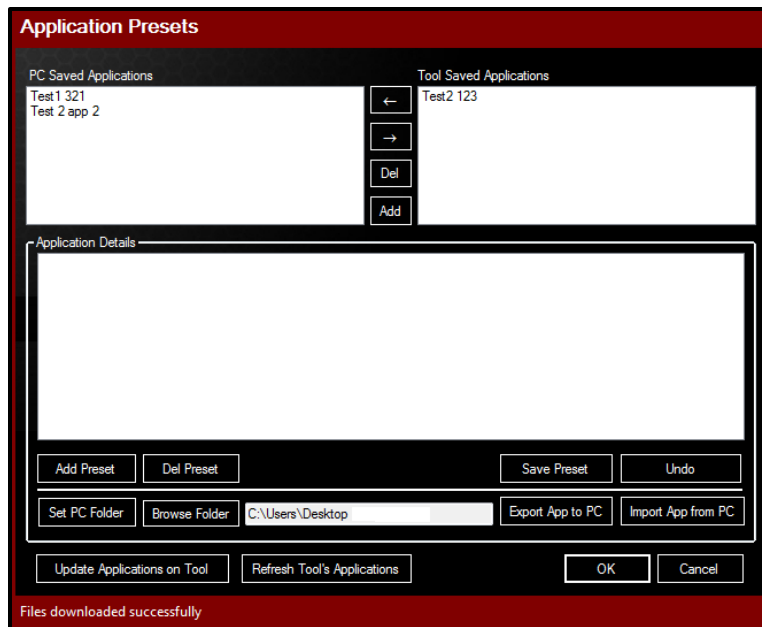

Figure 8.7-2: Application Presets Window
4. The Application Presets window will be displayed (Figure 8.7-2).